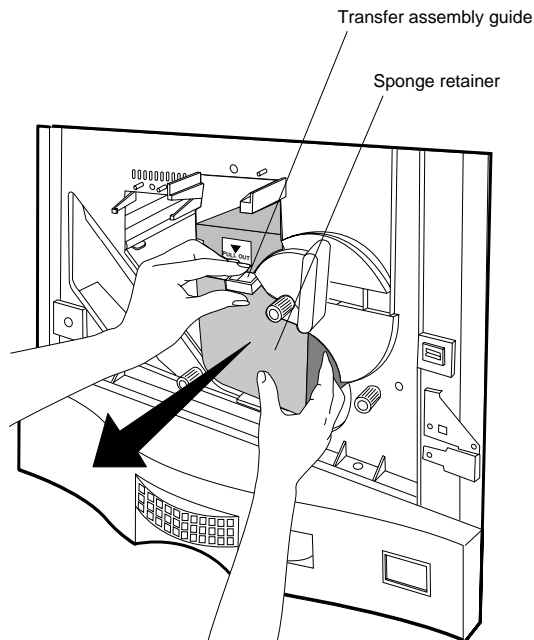

Figure 2-22 Removing Sponge Retainer
2. While holding the transfer assembly guide, remove sponge retainer, then lower the guide. See Figure 2-22.